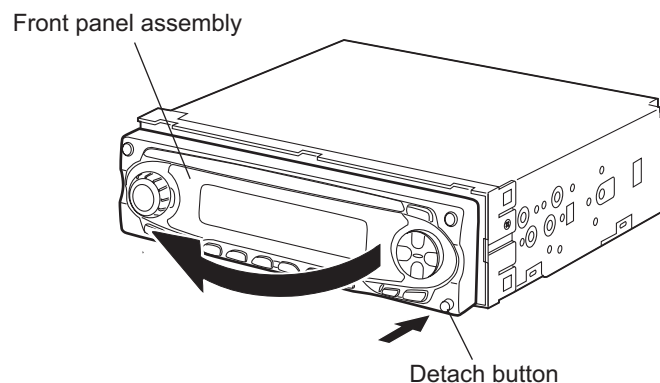

Fig.1
2.1.1 Removing the front panel assembly (See Fig.1.)